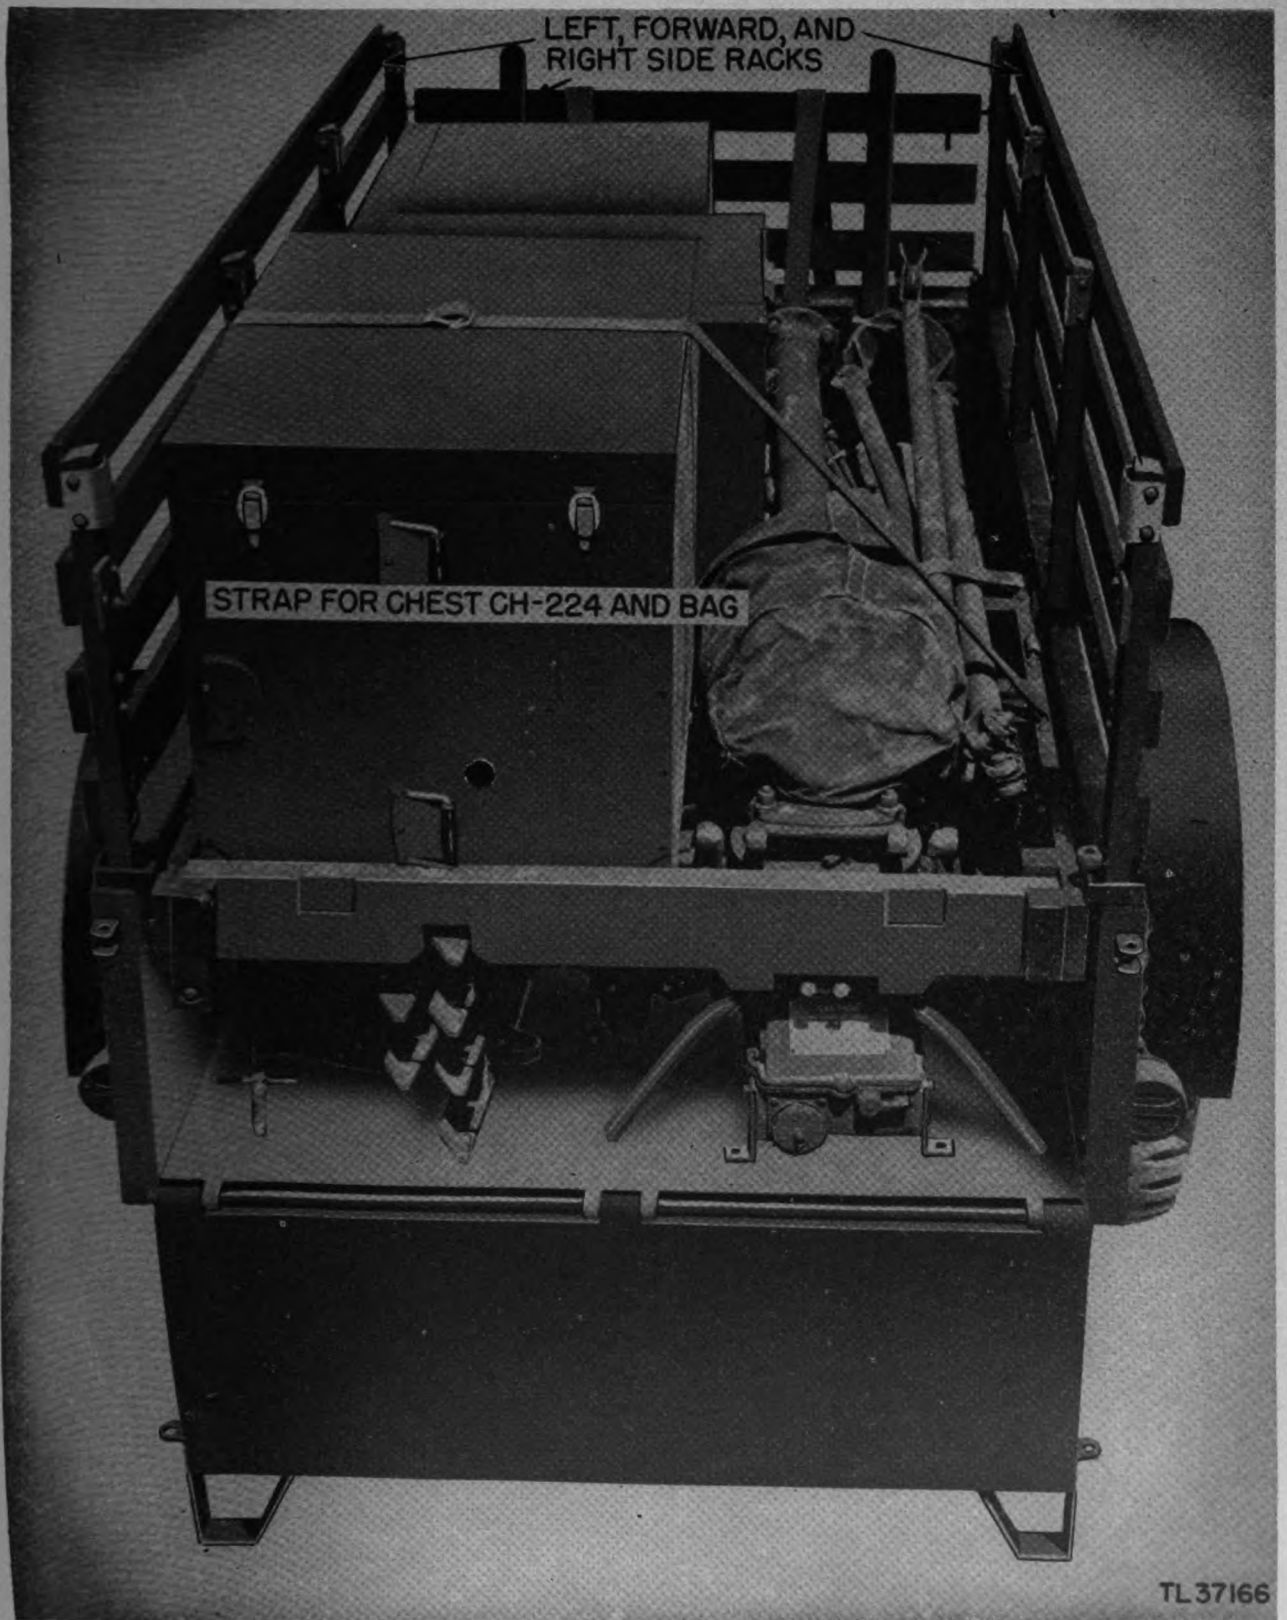

Figure 121. Trailer racks installed.
q. Set the canvas bag over the gearcase and across blocks A and B (fig. 121).
r. Replace the right, left, and forward side racks by inserting the rack stakes through the rectangular steel collars attached to blocks D and E and into the stake pockets. Fasten the forward trailer rack in place with the latches and side bolts (fig. 121).